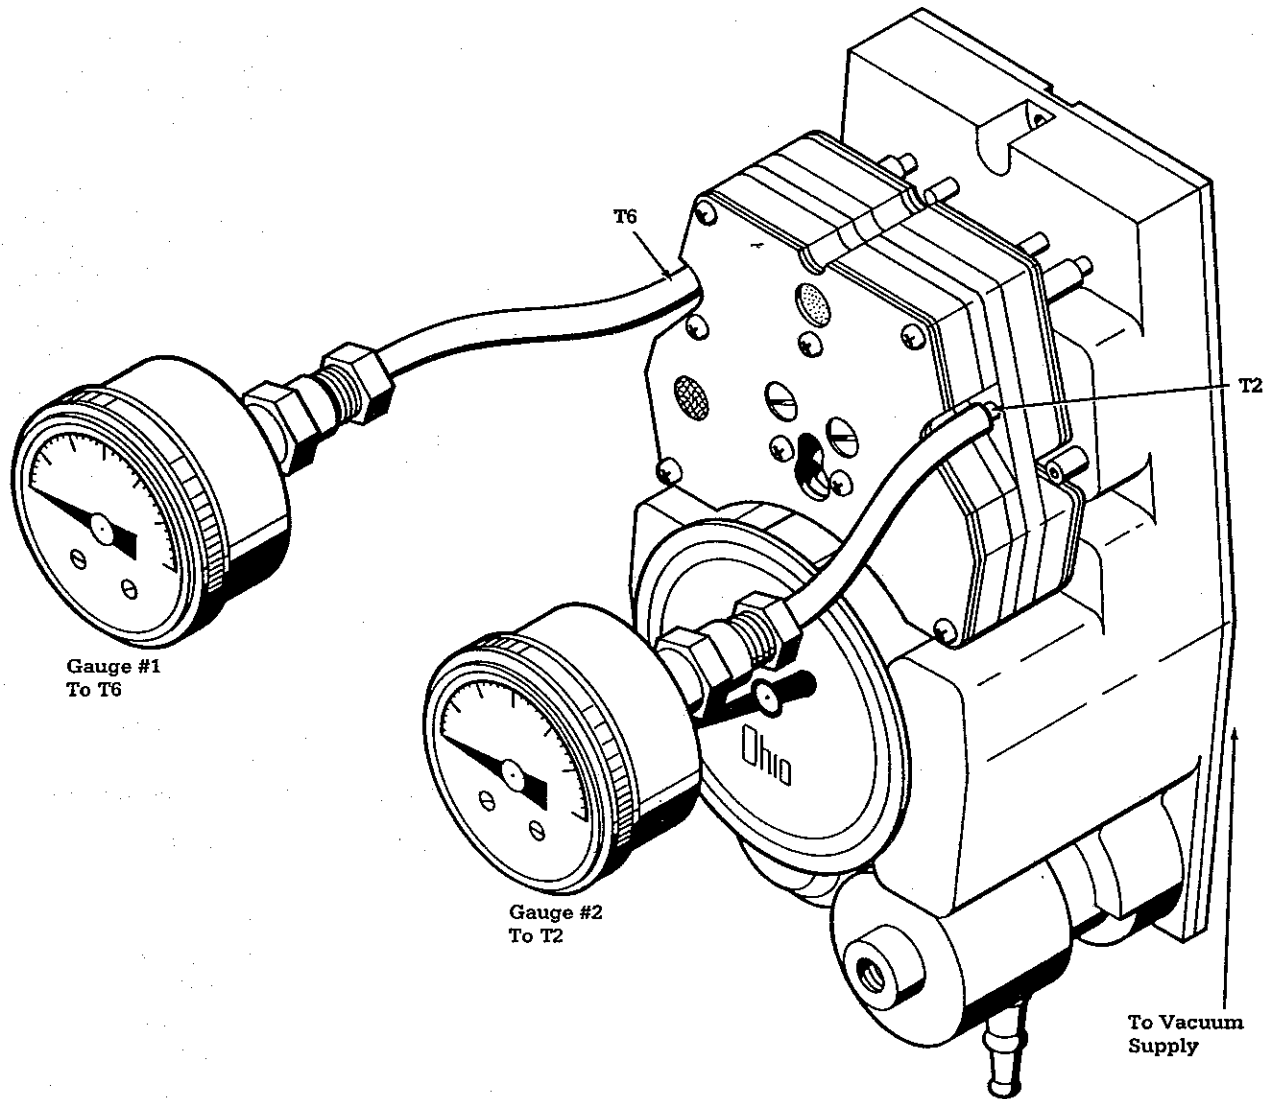

Figure 13
If a visual inspection does not reveal the cause of the problem, further diagnosis is required. The following procedures should be performed with vacuum test gauges attached to the unit to aid diagnosis. These gauges come as Kit #0221-5895-800 and are attached to the unit as shown in Figure 13. See General Description of Unilogic Module for schematic with test gauges.
1. Remove the two yellow dust caps (T2 and T6, Figure 13).
2. Connect a gauge to each port as shown in Figure 13.
Observe gauge #1 (See Figure 13). If the vacuum does not slowly increase after a few seconds, one or more of the following faults may be the cause: